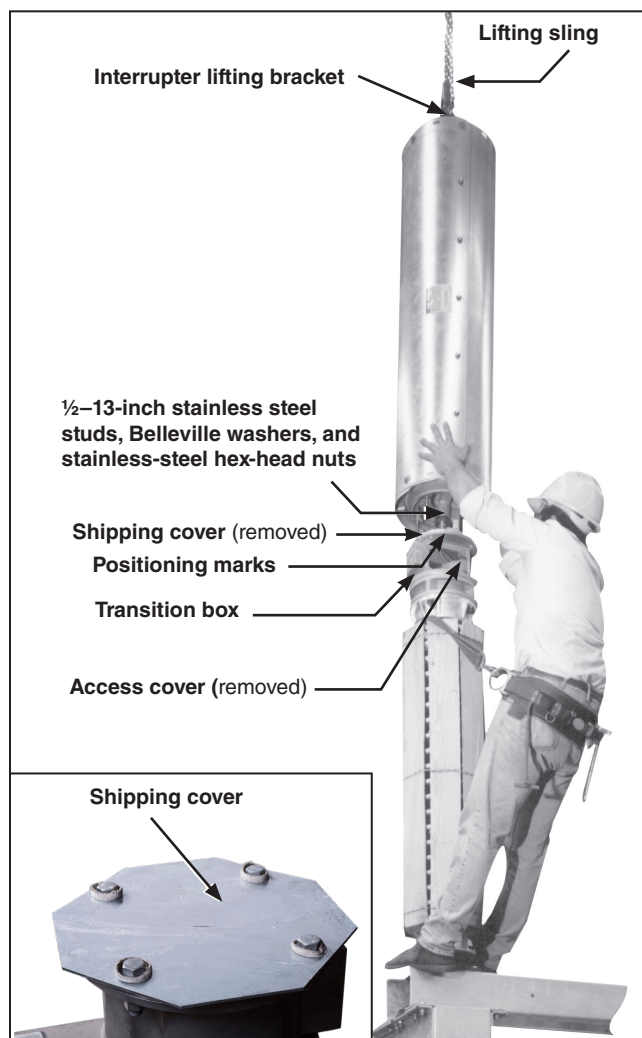
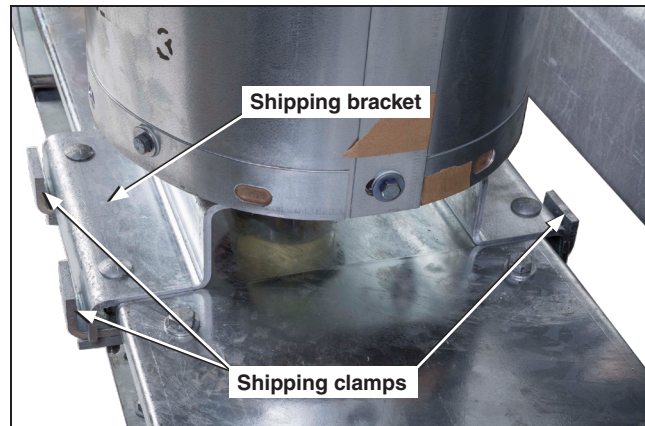

Figure 12. Lifting the interrupter over the insulating support column.
Figure 13. Remove the shipping clamps before attaching a lifting sling to the interrupter.
**STEP 1.** Attach a lifting sling to the lifting bracket on one of the interrupters. See Figure 12. Remove and discard the clamps and associated  $\frac{1}{2}$ -inch galvanized steel hardware fastening the interrupter shipping bracket to the high-speed base. See Figure 13 on page 14.
- (a) Remove and discard the shipping cover on top of the transition box. See Figure 12 on page 13, inset.
- (c) Remove the four  $\frac{5}{16}$ –18  $\times$   $\frac{3}{4}$ -inch hex-head stainless steel cap screws used to attach the access cover to the side of the transition box. Remove the cover and place it and the hardware on a clean surface. See Figure 12 on page 13. Also remove the cloth bag containing the hardware that will be used for connecting the interrupter coupling to the operating rod link in on page 15.